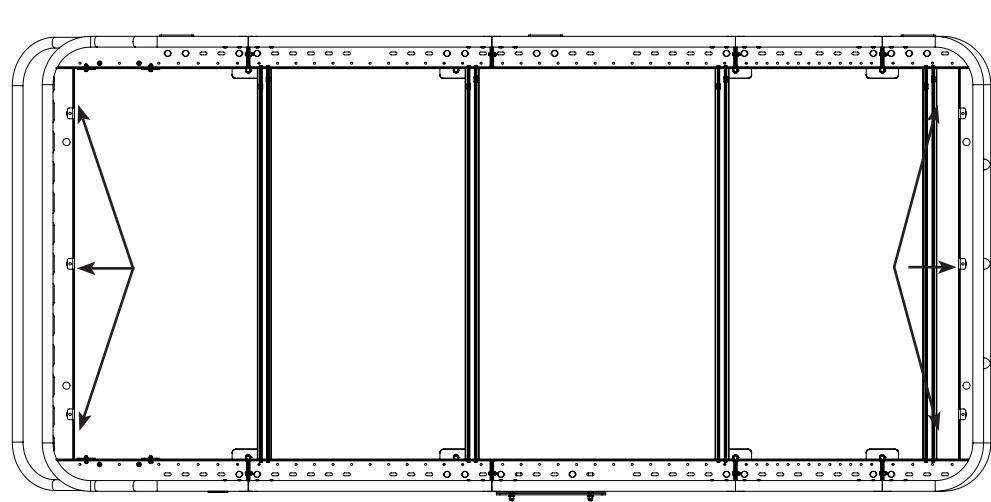

FIG 26
11.1 Attach Clip Nuts to Baskets: Install the Clip Nuts to the Front and Rear Basket locations as shown in FIG 26.